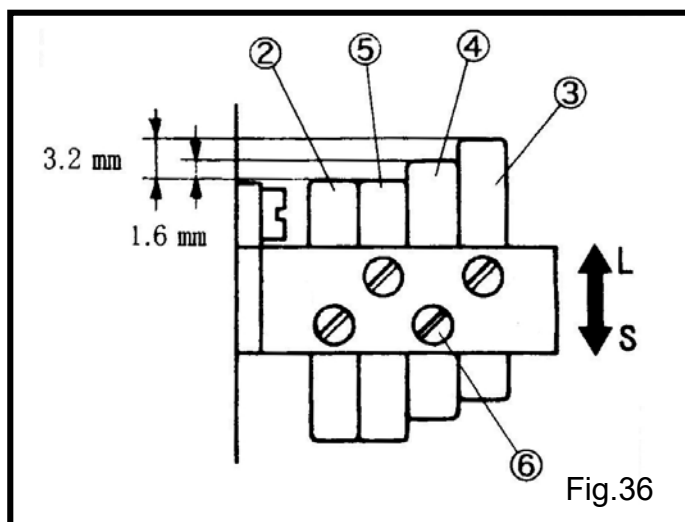

Fig.36
- (2) 第一片②要跟右邊第四針的線平齊。(Fig.36)
- (3) 設定第四片③離第一片②的高度為 3.2mm。
- (4) 設定第三片④離第一片②的高度為 1.6mm。
- (5) 設定第二片⑤離第一片②的高度為 0.8mm。
- (6) 對準後鎖緊螺絲⑥。
- (2) Set the top of pin② even with the needle thread as the fourth right needle. (Fig.36)
- (3) Set the pin③ 3.2 mm higher than the pin②.
- (4) Set the pin④ 1.6 mm higher than the pin②.
- (5) Set the pin⑤ even with or 0.8 mm higher than the pin②.
- (6) Tighten the screws⑥ securely.